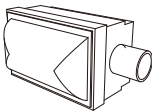

Figure 8 Air filter
- It is recommended to check the air filter after a cumulative use of 500 hours (Figure 8). If the air filter becomes black, please change it.